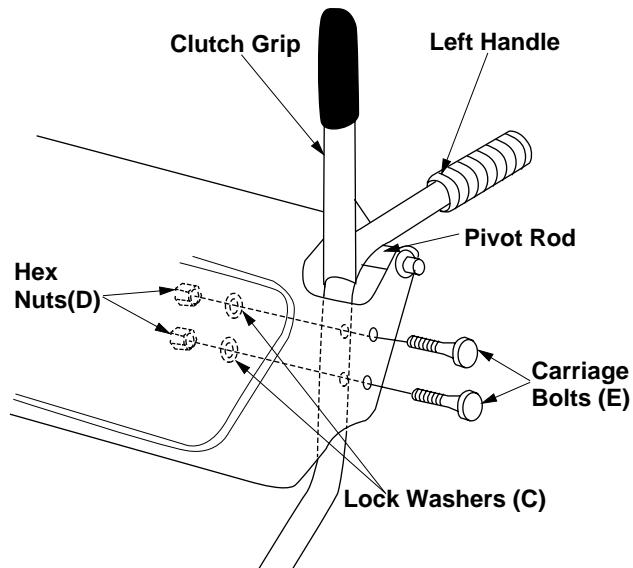

Figure 2
2. Lower left and right handles down through handle panel between the pivot rod and the clutch grips and attach using hardware B. See Figure 2.